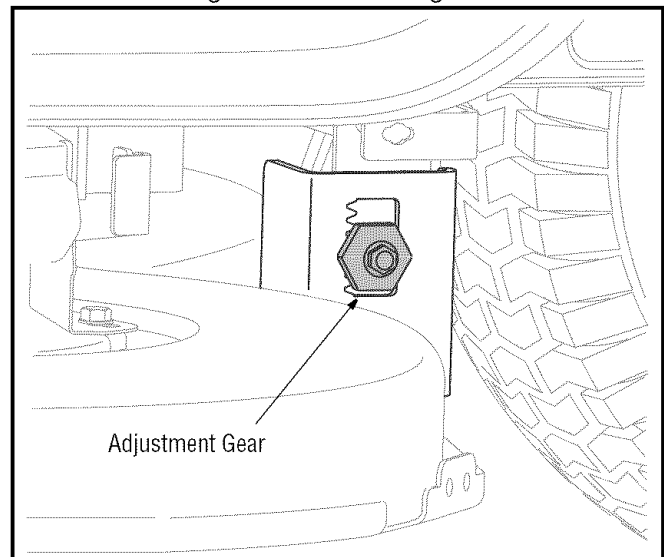

Figure 13
- Locate the jam nut and lock nut found on the front side of the stabilizer bracket. See Figure 13. After loosening the jam nut:
- Loosen, but do NOT remove, the hex screw on the left deck hanger bracket. See Figure 13.